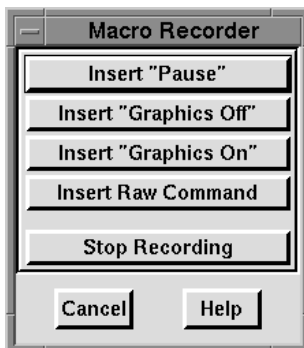

Figure 27-1. The Macro Recorder dialog.
- Click OK to initiate the recording of the macro file. The Macro Recorder dialog now appears, as shown in Figure 27-1. This dialog must remain up during the recording session.